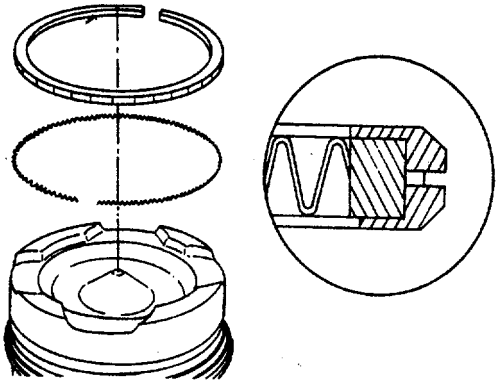

FIGURE 4-36. Oil Control Ring.
- (2) A cross-sectioned view of an oil control ring is shown. The two-piece oil control ring must be installed with the expander ring gap 180 degrees from the gap of the oil ring (Figure 4-36).